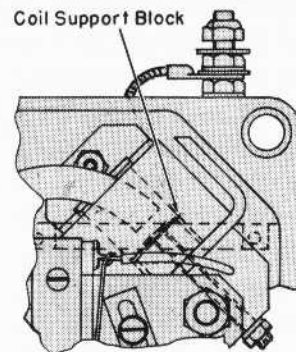
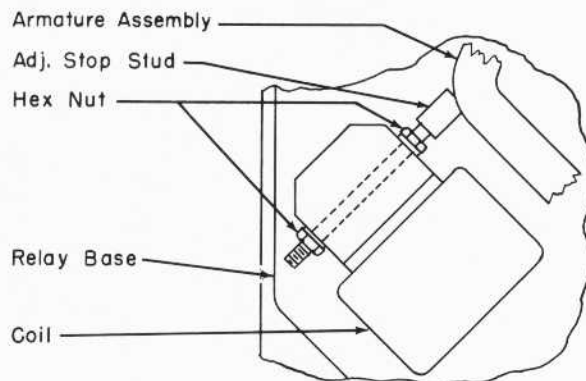
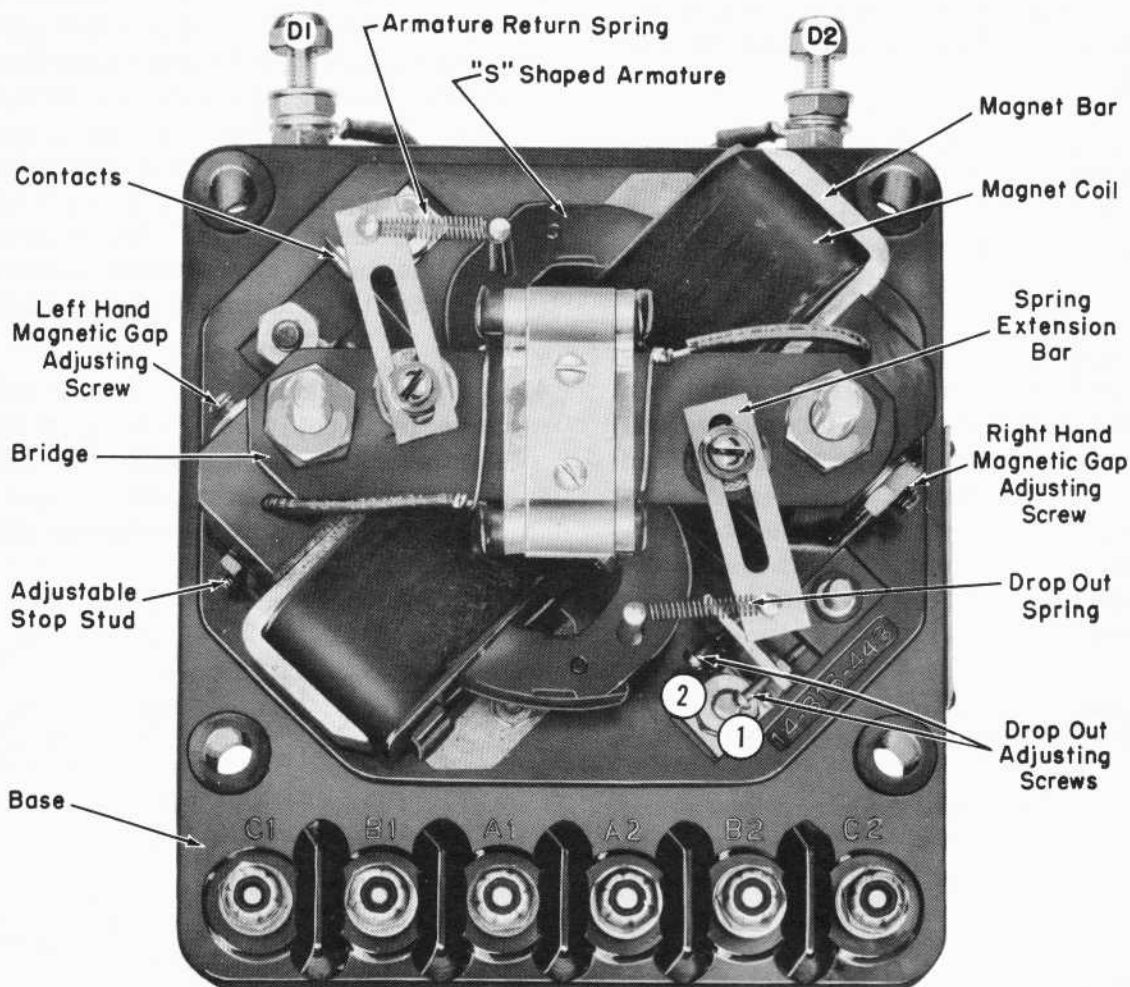

Fig. 3 - Location Of
Fig. 4 - Armature Adjustable Stop Stud
Fig. 5 - Relay 8187957
2. Set approximate armature travel with the right hand magnetic gap adjusting screw, Fig. 5, so that it protrudes three turns beyond the coil support block, Fig. 3. Hold the armature against the gap adjusting screw and set the stop stud, Fig. 4, against the armature and lock in position. Then back off the right hand magnetic gap adjusting screw approximately two and one-half turns.
adjusting screw, Fig. 5, to obtain the proper dropout.
- (1) Decrease applied voltage slowly. (Relay when properly adjusted will drop out at 40.75 \pm 0.2 milliamperes.)
- (2) To obtain this dropout, back off the two dropout adjusting screws, Fig. 5, far enough so they do not touch the dropout spring, when the armature is in its closed position.